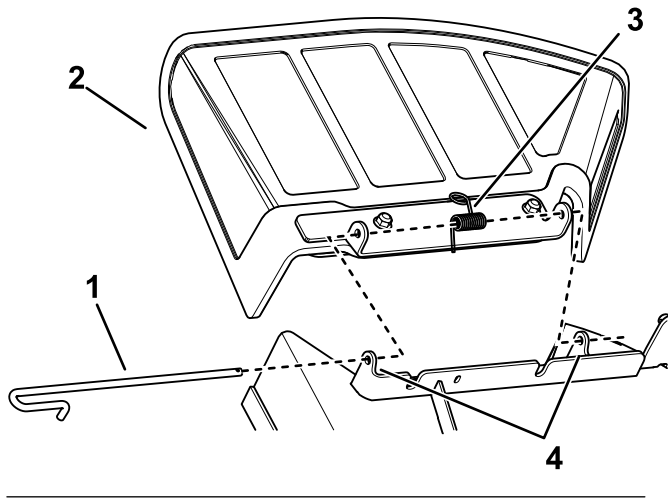

Figure 67
1. Disengage the spring and slide the rod out of the welded deck brackets, spring, and discharge deflector (Figure 67).
3. Position the new discharge deflector with the bracket ends between the welded brackets on the deck and install the rod and spring as shown in Figure 67.
4. Place the end of the rod in the notch of the bracket (Figure 67).